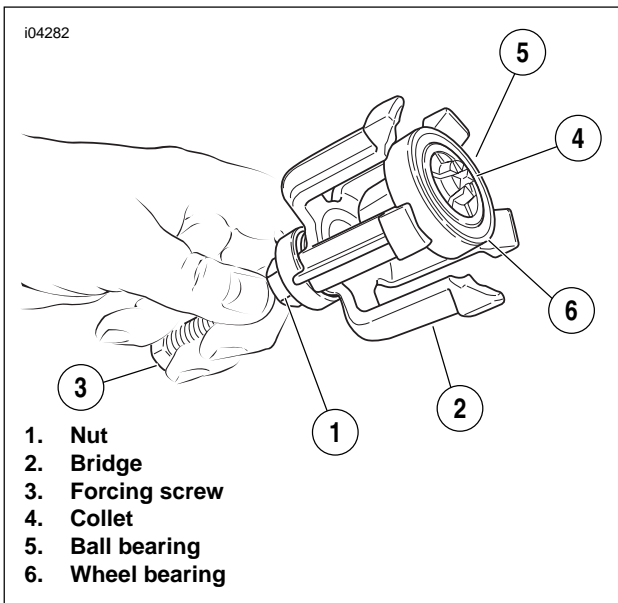

Figure 2-10. Removing Bearing from Puller
11. See Figure 2-10. Remove the ball bearing (5) and wheel bearing (6) from the collet (4).